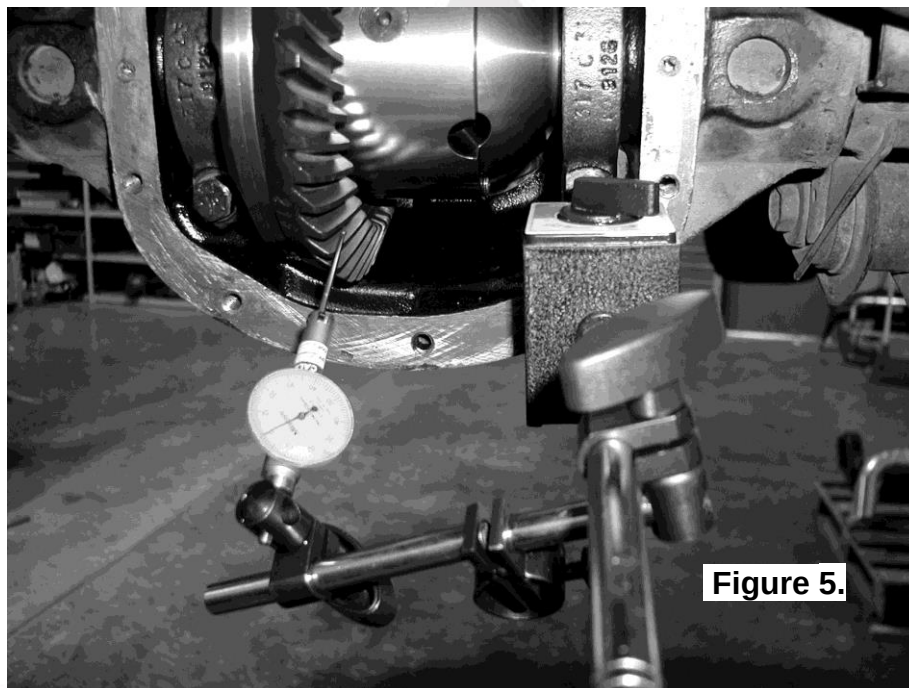

Figure 5.
- ☐ Set a depth indicator on one of the ring gear teeth as in Figure 5.